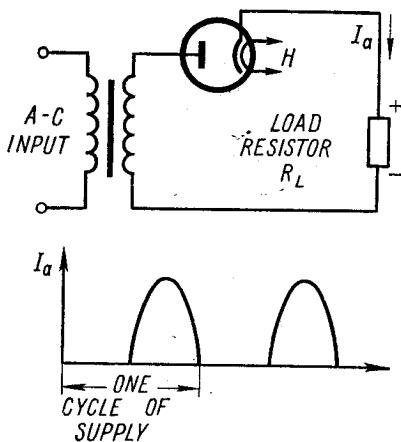

Fig. 20. Half-wave rectifier and output waveform
8. Since a diode will permit current to flow only during the positive half-cycle of the applied ac voltage, a single diode is known as a half-wave rectifier. A half-wave rectifier circuit with its output waveforms is shown in Fig. 20.
11. It is evident from Fig. 20 that during the time the plate current flows, its instantaneous amplitude follows exactly the changes in the applied voltage. The shape of the plate-current waveform as illustrated in Fig. 20 therefore, is an exact replica on the ac input voltage waveform during positive half-cycles.
12. The plate current flowing through the load resistance develops a dc output voltage, whose waveform is exactly the same as that of the plate current and is also represented by Fig. 20. But since only the positive half-cycles of the input voltage are reproduced, one-half of the input voltage is in effect lost.